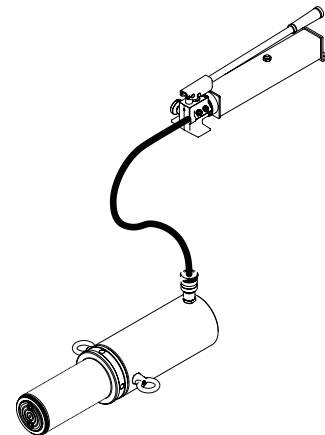

Figure 2 - Illustration to bleed air from system
2. Place pump at a higher elevation than the hose and cylinder as shown in Figure 2 below.
| Erratic action                                                                | <ul style="list-style-type: none"> <li>• Air in system or pump cavitation</li> <li>• External leakage in cylinder</li> <li>• Cylinder sticking or binding</li> </ul>                                                                                        | <ul style="list-style-type: none"> <li>• Vent the system (refer to figure 2).</li> <li>• Contact service center.</li> <li>• Contact service center.</li> </ul>                                                                                                                                                                                                                             |
| Poor performance                                                              | <ul style="list-style-type: none"> <li>• Oil level in pump is low</li> <li>• Air trapped in system</li> </ul>                                                                                                                                               | <ul style="list-style-type: none"> <li>• Ensure proper oil level.</li> <li>• Vent the system (refer to figure 2).</li> </ul>                                                                                                                                                                                                                                                               |